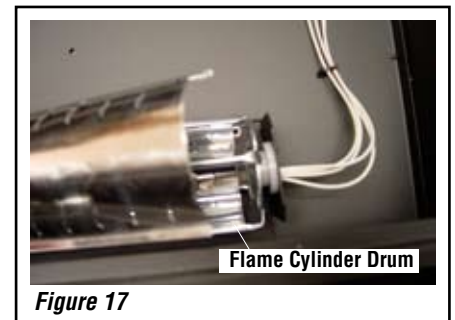
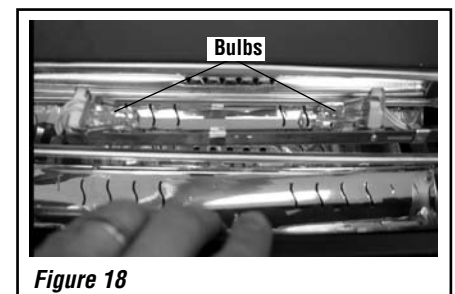

Figure 17
Figure 18
- iii. Locate flame cylinder drum (see **Figure 17**). Squeeze one half of drum cylinder until its top edge clears the top drum track. Remove the bottom edge of the cylinder drum from the bottom drum track. Once you have removed one half of the drum cylinder, you will have access to the 2 light bulbs (see **Figure 18**). **Note: do not exert excessive pressure on the drum cylinder as this may cause damage.**